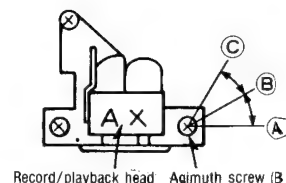
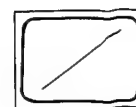

Fig. 3
Fig. 6
2. Playback the 8kHz signal from the test tape (QZZCFM). Adjust the azimuth screw (B) shown in fig. 3 for maximum output L-CH and R-CH levels. When the output levels of L-CH and R-CH are not at maximum at the same point adjust as follows.
3. Turn the azimuth screw (B) shown in fig. 3 to find angles A and C (points where peak output levels for left and right channels are obtained). Then, locate angle B between angles A and C, i.e., point where L-CH and R-CH outputs are balanced.
5. Playback the 8kHz signal from the test tape (QZZCFM). Adjust the azimuth screw (B) shown in fig. 3 so that pointers of the two VTVMs swing to maximum and a lissajous waveform as illustrated in fig. 6 is obtained on the oscilloscope.